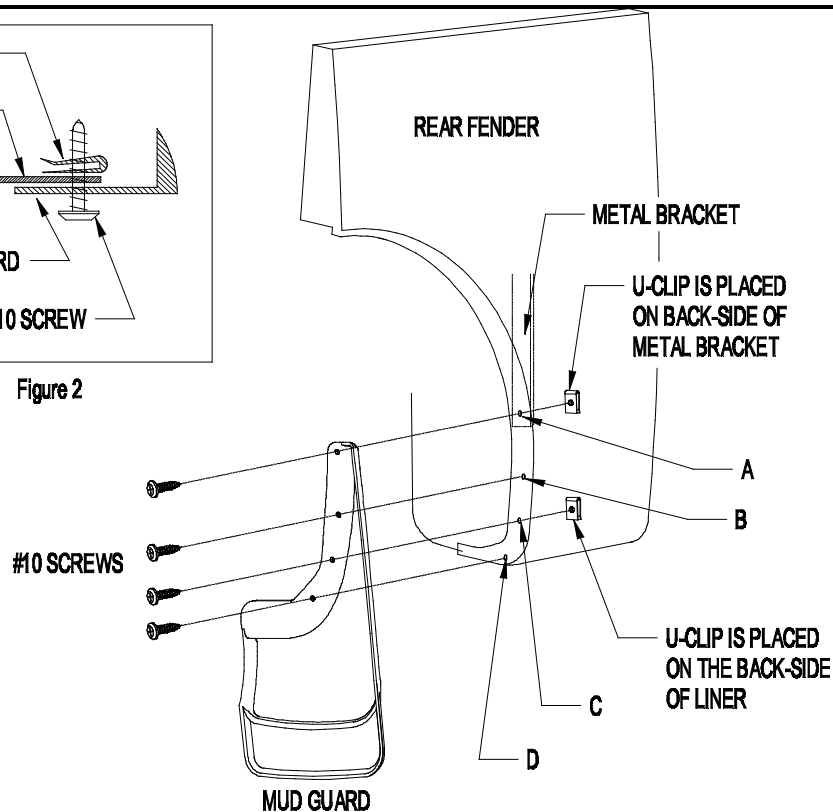

Figure 1
2. Remove factory fasteners from locations A and C (Figure 1).
3. Attach mud guard by installing a #10 screw at location A - through mud guard, fender, liner, metal bracket and into a U-Clip (U-Clip is placed on the back-side of the bracket, DO NOT slide U-Clip over metal bracket (Figure 1), check fit and level before tightening.
4. Install a #10 screw at location C - through mud guard, fender, liner, into a U-Clip (U-Clip is placed on the back-side of the liner, DO NOT slide U-Clip over liner (Figures 1 and 2).
5. Using mud guard as a template, center punch and drill 1/8" holes at locations B and D (Figure 1).